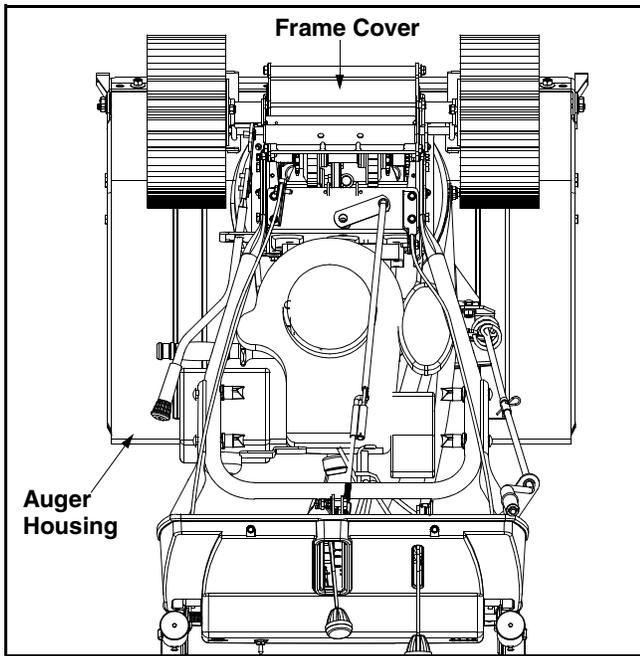

Figure 10
- Tip the snow thrower forward, allowing it to rest on the auger housing. See Figure 10.
- Tip the snow thrower up and forward so that it rests on its auger housing. Refer to Figure 10.